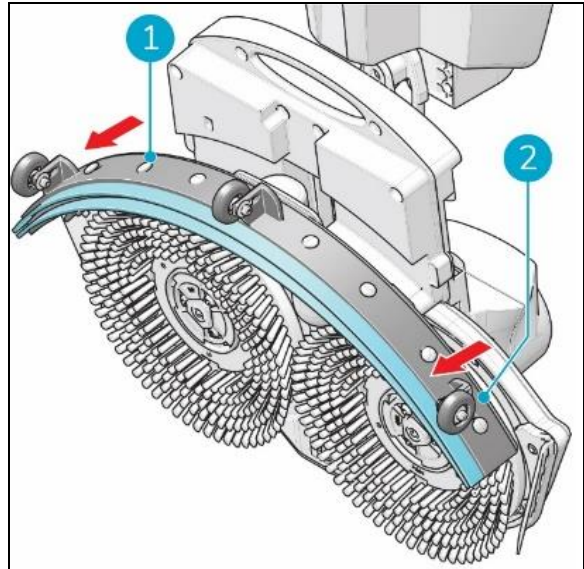

Figure 24
3. Pull on the left side of the squeegee to remove it (Figure 24, pos 1).
4. Pull on the right side of the squeegee to remove it (Figure 24, pos 2).